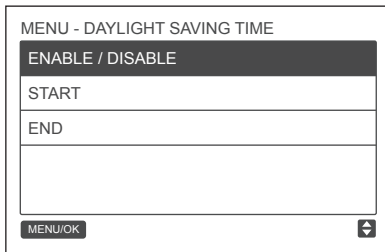

Fig. 56 — Enabling/Disabling DAYLIGHT SAVING TIME
**ENABLE OR DISABLE THE DAYLIGHT SAVING TIME FUNCTION** — Use the cursor to select **ENABLE/ DISABLE**, and press **MENU/OK**  $\leftarrow$  to enter this setting, as shown in Fig. 56.